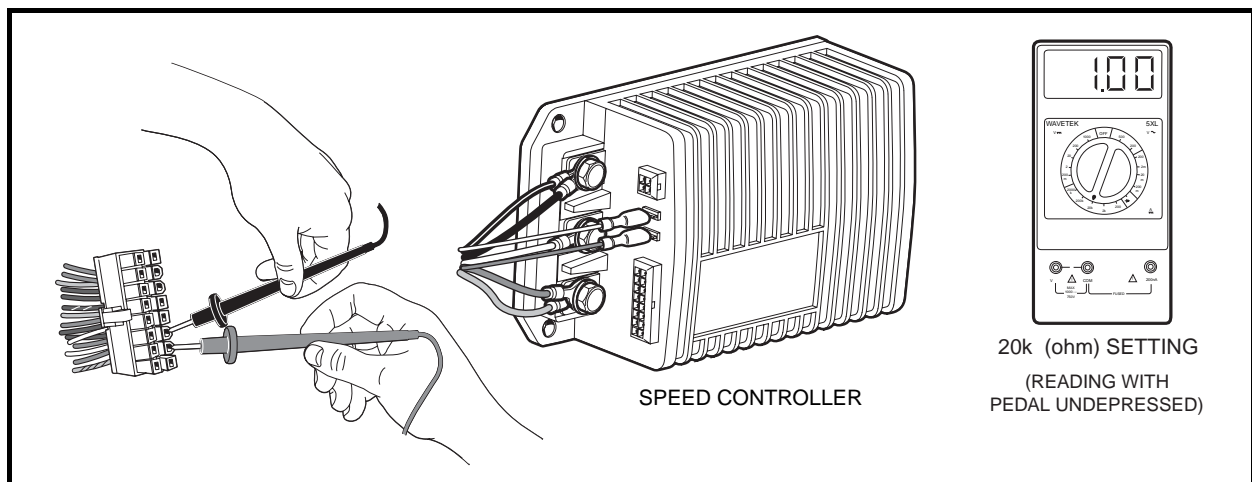

Figure 11-13 Pins 1, 2, and 3 Test
4. Using a multimeter set for 20k ohms, insert the red (+) probe of the multimeter into pin 2 (yellow wire) of the 16-pin connector. **See following CAUTION.** Insert the black (–) probe into pin 3 (purple/white wire) of the 16-pin connector (**Figure 11-13, Page 11-26**).